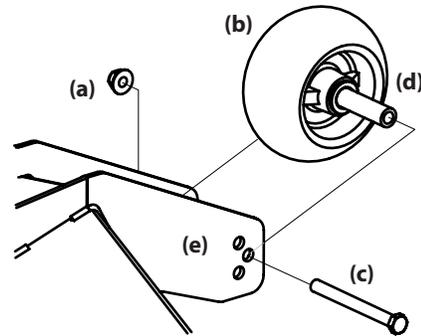

Figure 32
- Remove the lock nut (a) securing one of the front gauge wheel (b) to the deck. Remove the front gauge wheel (b), hex screw (c) and spacer (d) (Figure 32).